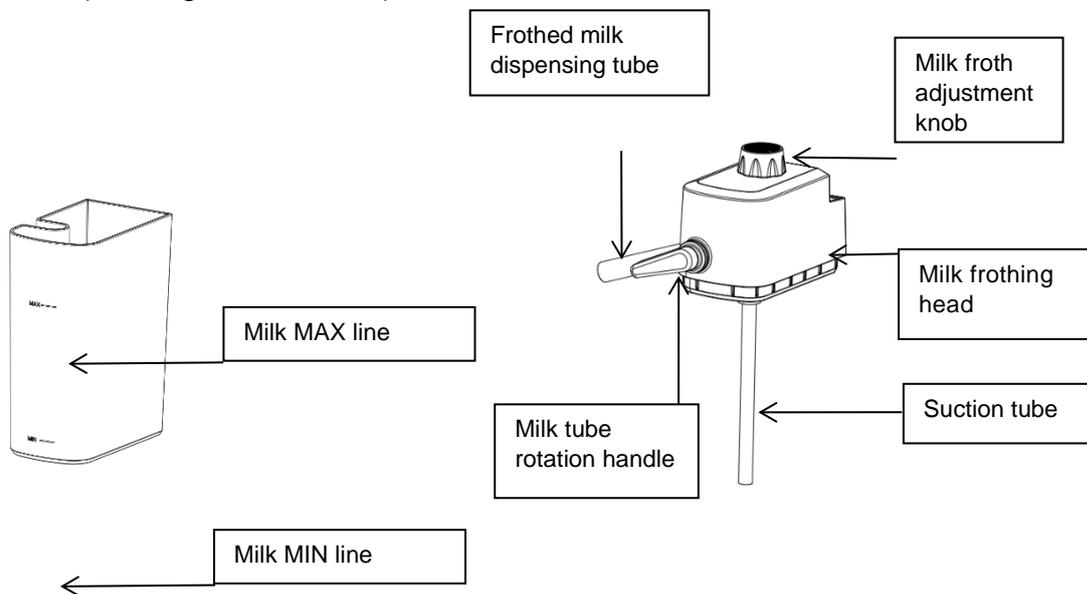

Figure 5
1. First, detach the milk tank and the milk frothing head on the milk tank. Add 400g of milk into the milk tank (up to the MAX line), and install the milk frothing head. Before installing the head, ensure the suction tube is properly installed. Make sure that the suction tube on the head is fully inserted and positioned vertically downward. If the milk level in the tank is lower than the MIN line, refill the tank with milk. Always ensure the tank contains milk during operation (see Figure 5).